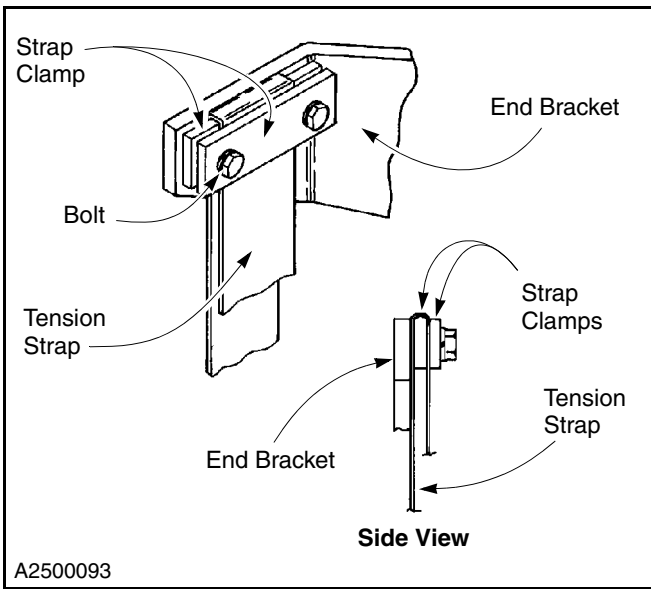

Figure 73
3. Loosen the two bolts to release the blue tension strap from the strap clamp. The clamp is at the end of the end bracket. (See Figure 73.)